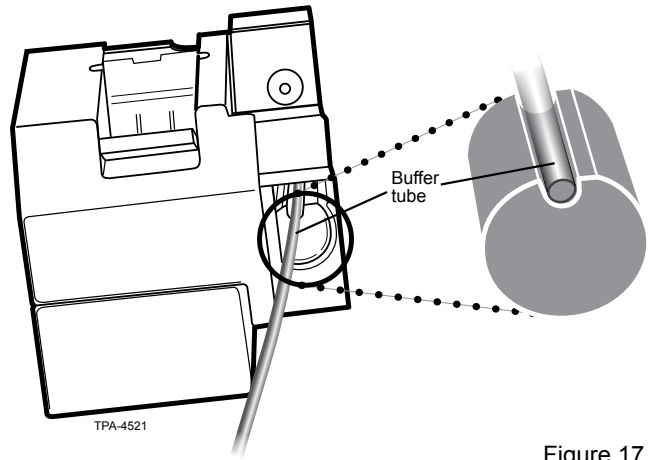

Figure 17
- b. Place the required buffer tube in the holder's slot, lining up the buffer tube's starting point mark with the blade contact point (Figure 17).
- c. Squeeze the tool manually with your hands and maintain pressure. Slide the tool backward slightly to ensure the buffer tube is correctly inside the groove. Rotate the locking lever to lock the tool (Figure 17).